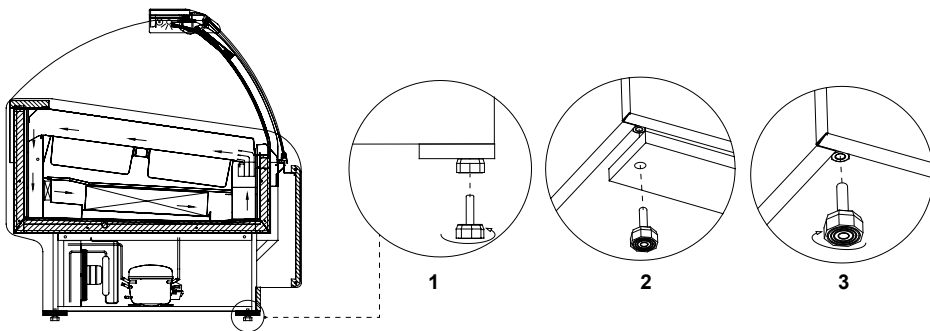

Fig.4 Removing the wooden platform
- Unpack the device and remove the wooden platform from the basis Fig.4 (p.14)